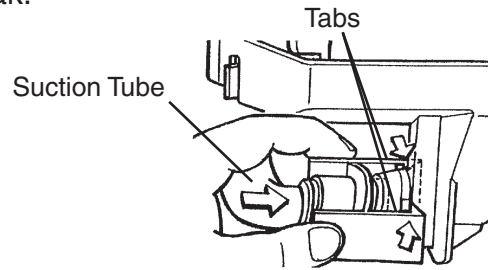

Fig. 34
- 4) Reconnect the suction tube as illustrated. See Fig. 34. Make sure the tabs lock into place; a loose fitting may cause a water leak.